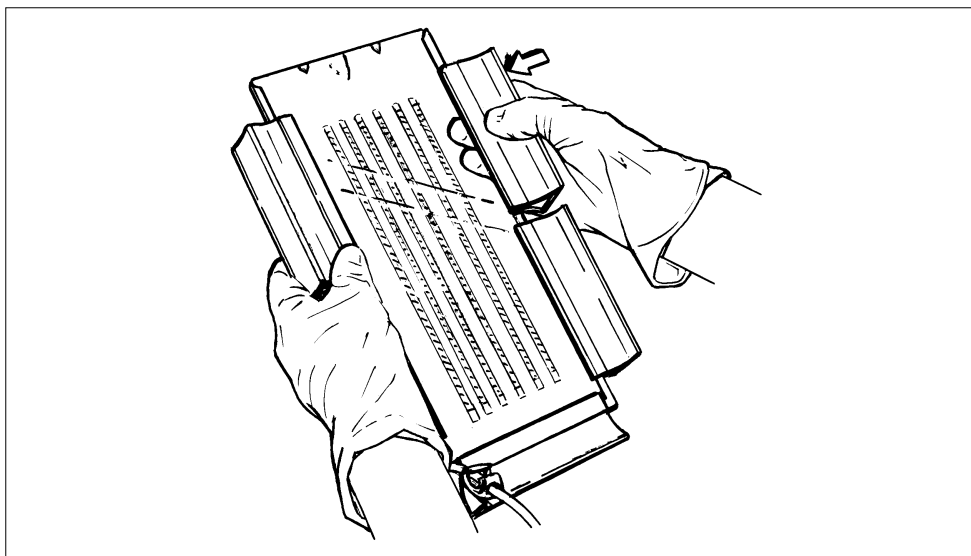

Fig. 4.
- Place the U-frame on top of the plate containing the strips and clamp the cassette together using FlexiClamps (Fig. 4).